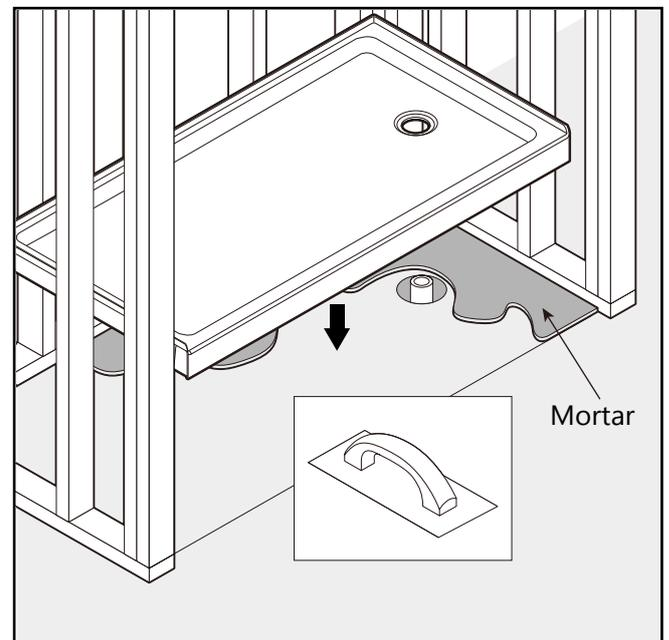

Fig. 4
- Apply a generous amount of mortar that has been mixed to a thick consistency. Lower the shower base into position with the drain assembly sliding over the waste pipe. It will be necessary to "rock" the shower base until the top of the tile flange aligns with the lines drawn in Step 2 on the stud walls. Make certain the apron is contacting the rough floor along the entire length of the shower base. Ensure that the base is level in two directions. Place drain cover back into place and check for proper drainage. Let mortar cure for 24 hours. Proceed to the next step. (Fig 4)